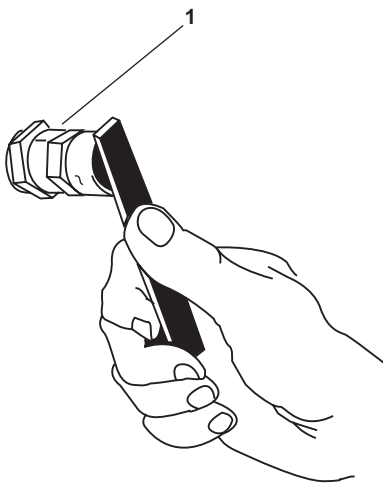

Figure 10. Main Engine Test Valve
- a. OPEN the test valves (figure 10, item 1) on both sides of the starboard main engine, approximately ½ inch.
- d. Check the starboard main engine test valves (figure 10, item 1) and air box blow down valves (figure 2, item 6) for the presence of oil and/or water. If no oil or water are detected, continue with this procedure. If oil or water are detected, notify the maintenance supervisor.
- e. CLOSE all the test valves (figure 10, item 1).
- a. Open the test valves (figure 10, item 1) on both sides of the port main engine, approximately ½ inch.